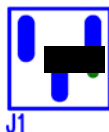

Figure 3: J1 controls EN_PB input.
STEP 2: Set the EN_PB jumper J1 to the desired position. See Figure 3. Pulling it low disables the pre-bias mode operation. Pulling this jumper high or letting it float will allow monotonic start-up with a pre-biased output. In pre-bias mode, VOUT will not discharge very quickly. Therefore, you may need to apply a small load (~10mA) at shut-down to ensure that the output voltage discharges. In Figure 3 the jumper is set low to disable pre-bias mode.